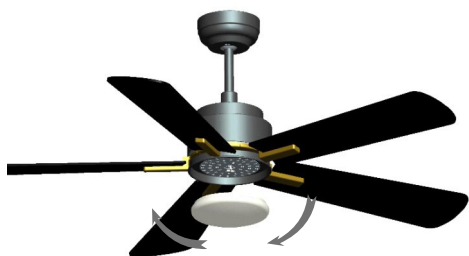

Fig 9.1
9.1 Align the lampshade slot with the slot of light kit pan, and turn it clockwise to securely lock into the light kit pan as shown in Fig 9.1.